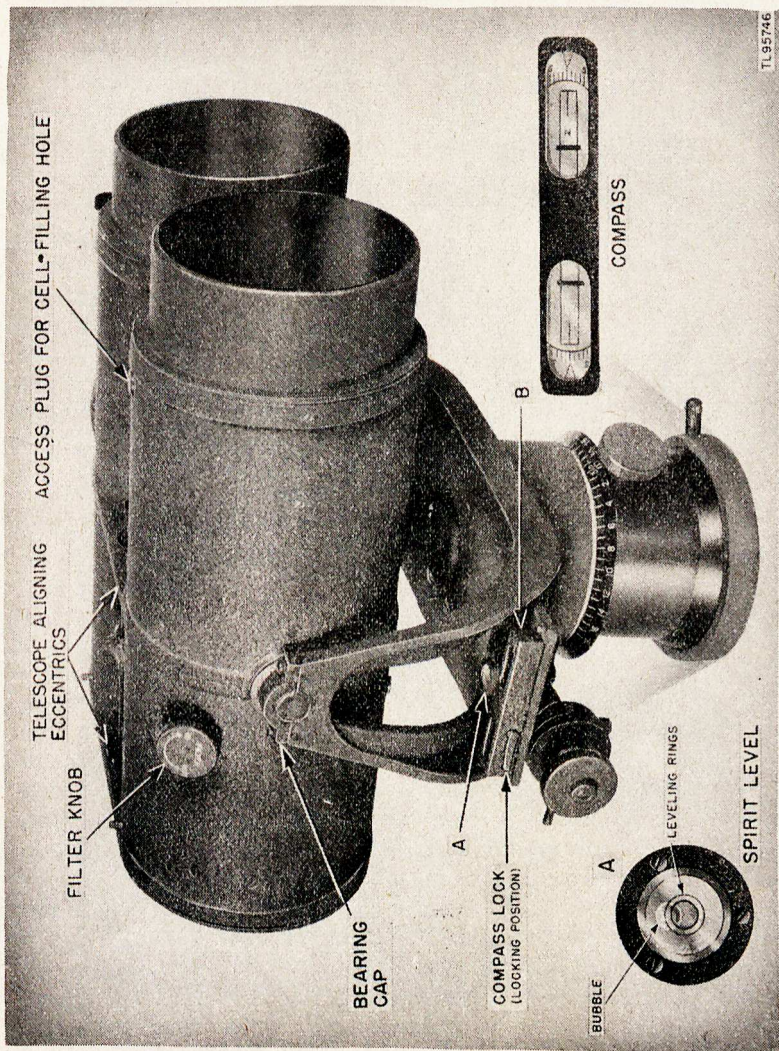

Figure 4. Optical unit, side view.
a. **Transmitting Chamber (fig. 4).** The transmitter chamber consists of a metal tube approximately 14 inches long and 5 inches in diameter, inside of which a modulating cell, a two-lens optical system, a filter, and a lamp are mounted.
c. Mounting and Base (fig. 4). The base can be fastened to the tripod by means of a threaded hole in the bottom of the base plate. Above the plate is a ball and socket joint which allows movement of the mounting in any direction for the purpose of leveling. A level clamp on the side of the lower part of the base permits locking the mounting in position when the unit has been leveled. Above the ball and socket joint is an azimuth ring calibrated in hundred mils marked off around its circumference. An azimuth release knob just below the scale allows the scale to move freely for purposes of orientation. Above the azimuth scale is a housing which contains the azimuth worm and gear. A shaft projecting from the side of this housing ends in an azimuth control knob which is provided with a scale calibrated in mils. Turning this knob will cause the unit to move through an angle of 360° . To the left of the calibrated knob a small lever is provided which will disengage the worm from the worm gear when rapid rotation of the unit is desired.
e. Level. For leveling purposes a spherical bubble-type level is mounted on the horizontal portion of the yoke to the right of the transmitter chamber (fig. 4).
f. Compass. A compass mounted to the right of the level is provided for alignment of the unit relative to magnetic north (fig. 4).